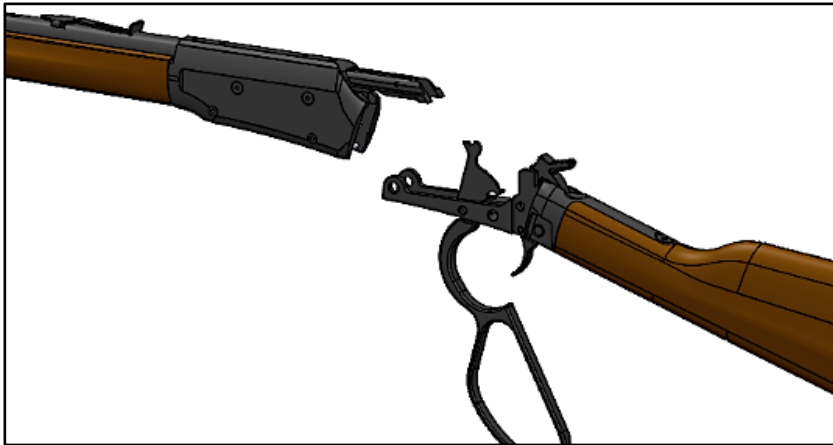

FIGURE 27
8. With the lever in the open position, take the lower half assembly and slide it inside the upper half assembly, paying close attention to the bolt and lever assembly alignment - FIGURE 27.